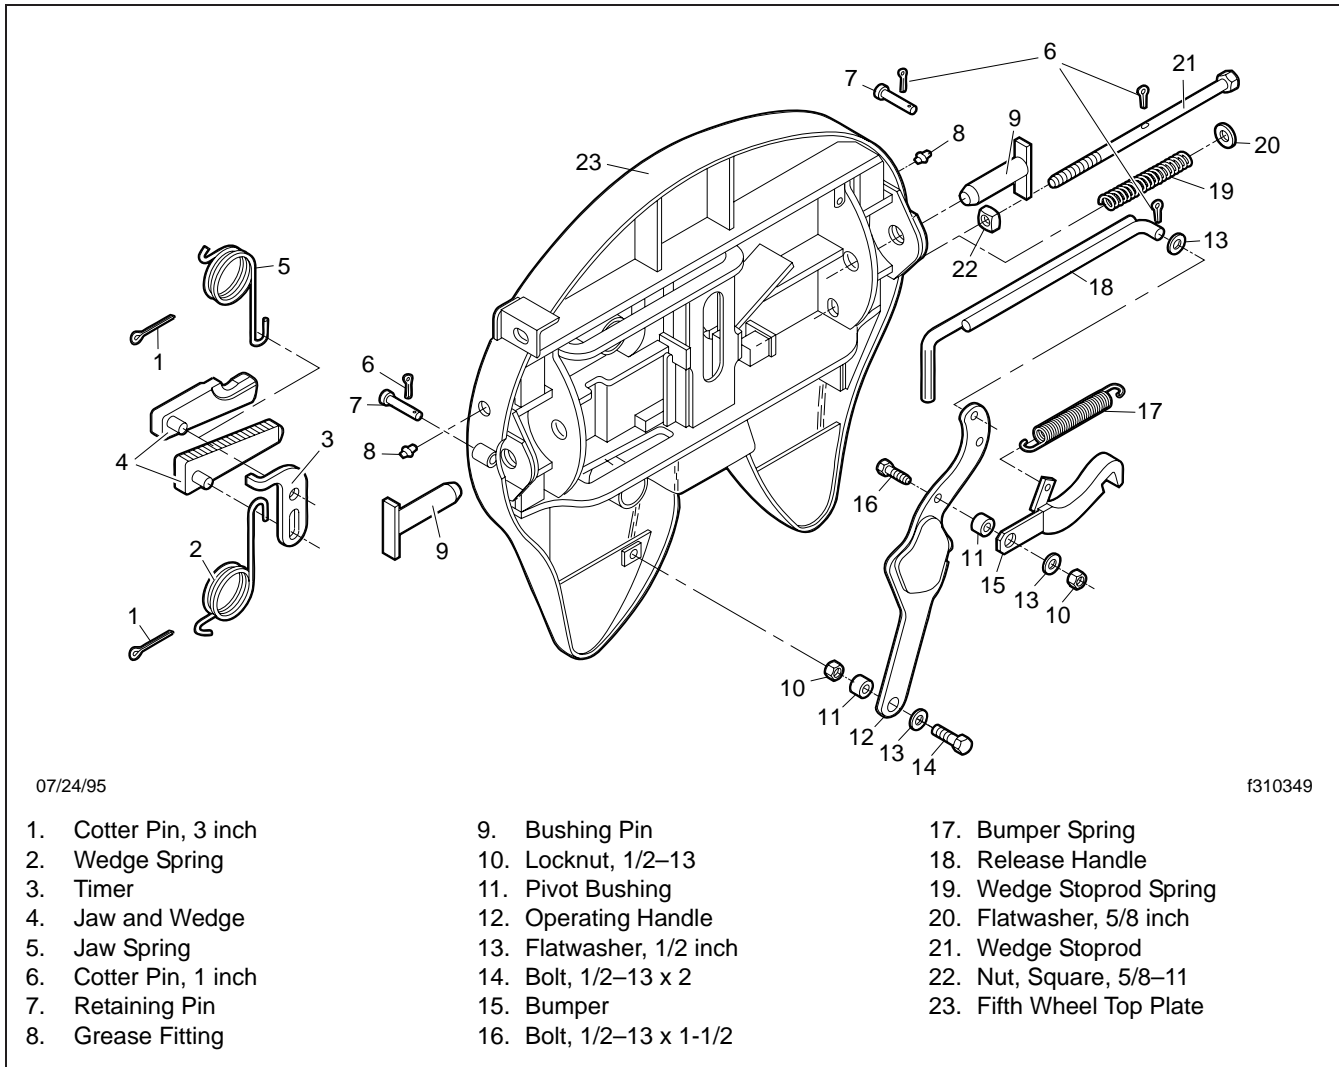

Fig 1, Fontaine 5000/6000 Series Fifth Wheel (right-side release shown)
6. Visually check for loose nuts or bolts (see **Fig. 1**) on the fifth wheel and on the mounting. Set a torque wrench to the maximum torque value for the bolt being checked, and confirm that the torque is to specification. Do not loosen the bolt to check the torque value. See **Group 00** for bolt torque specifications.